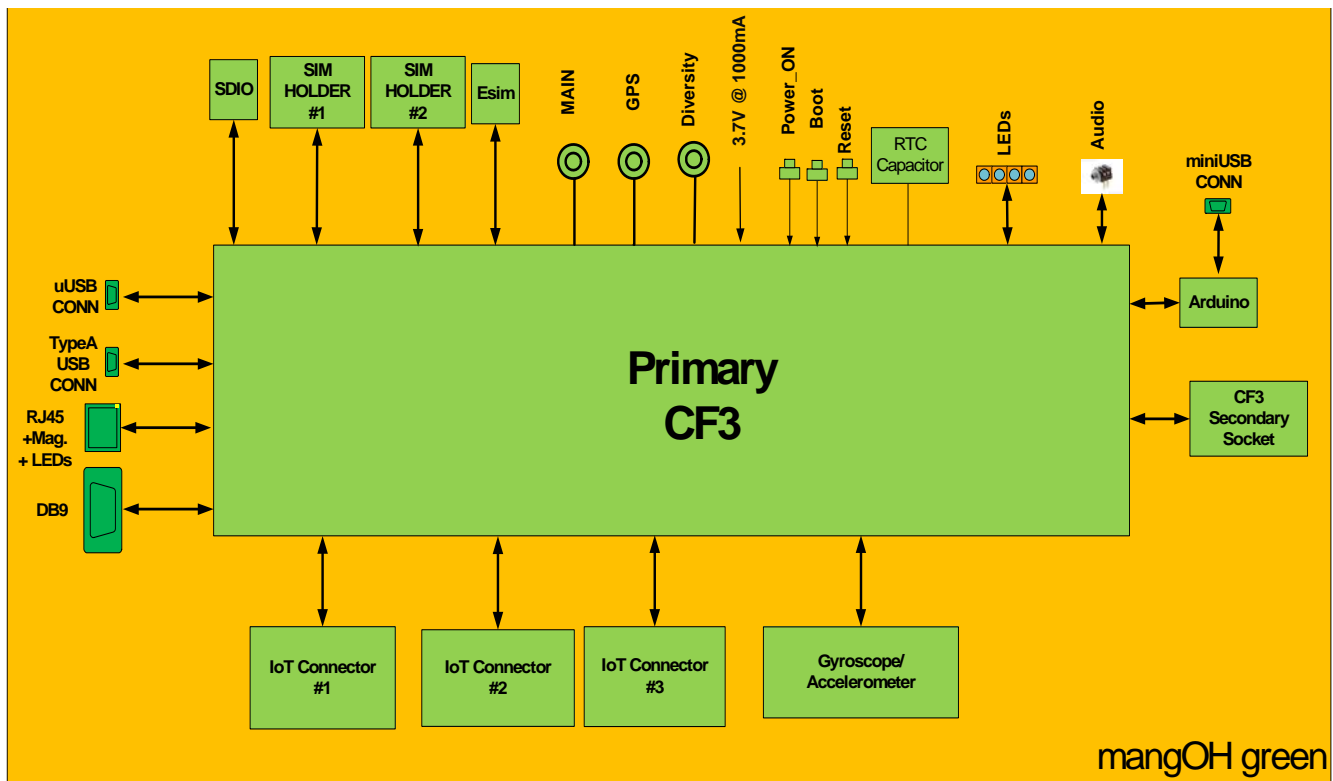
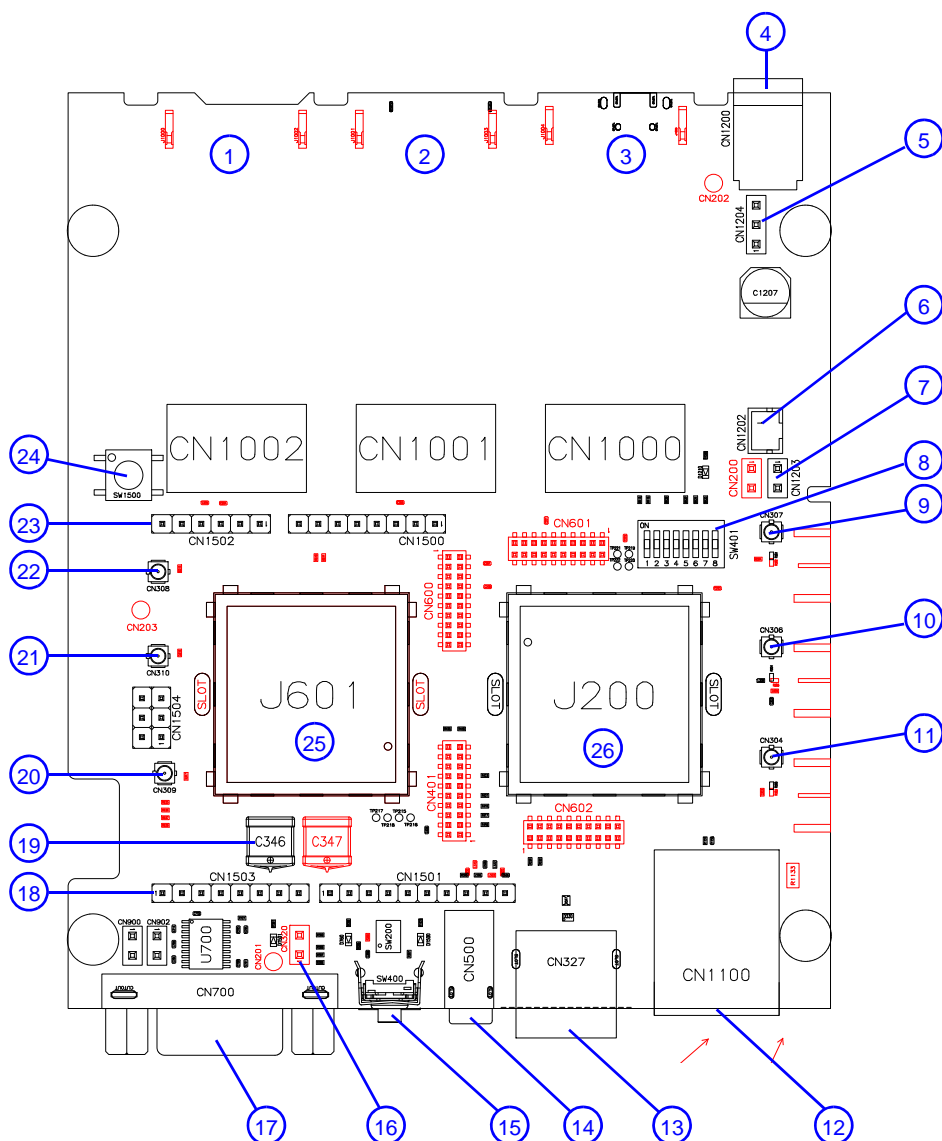
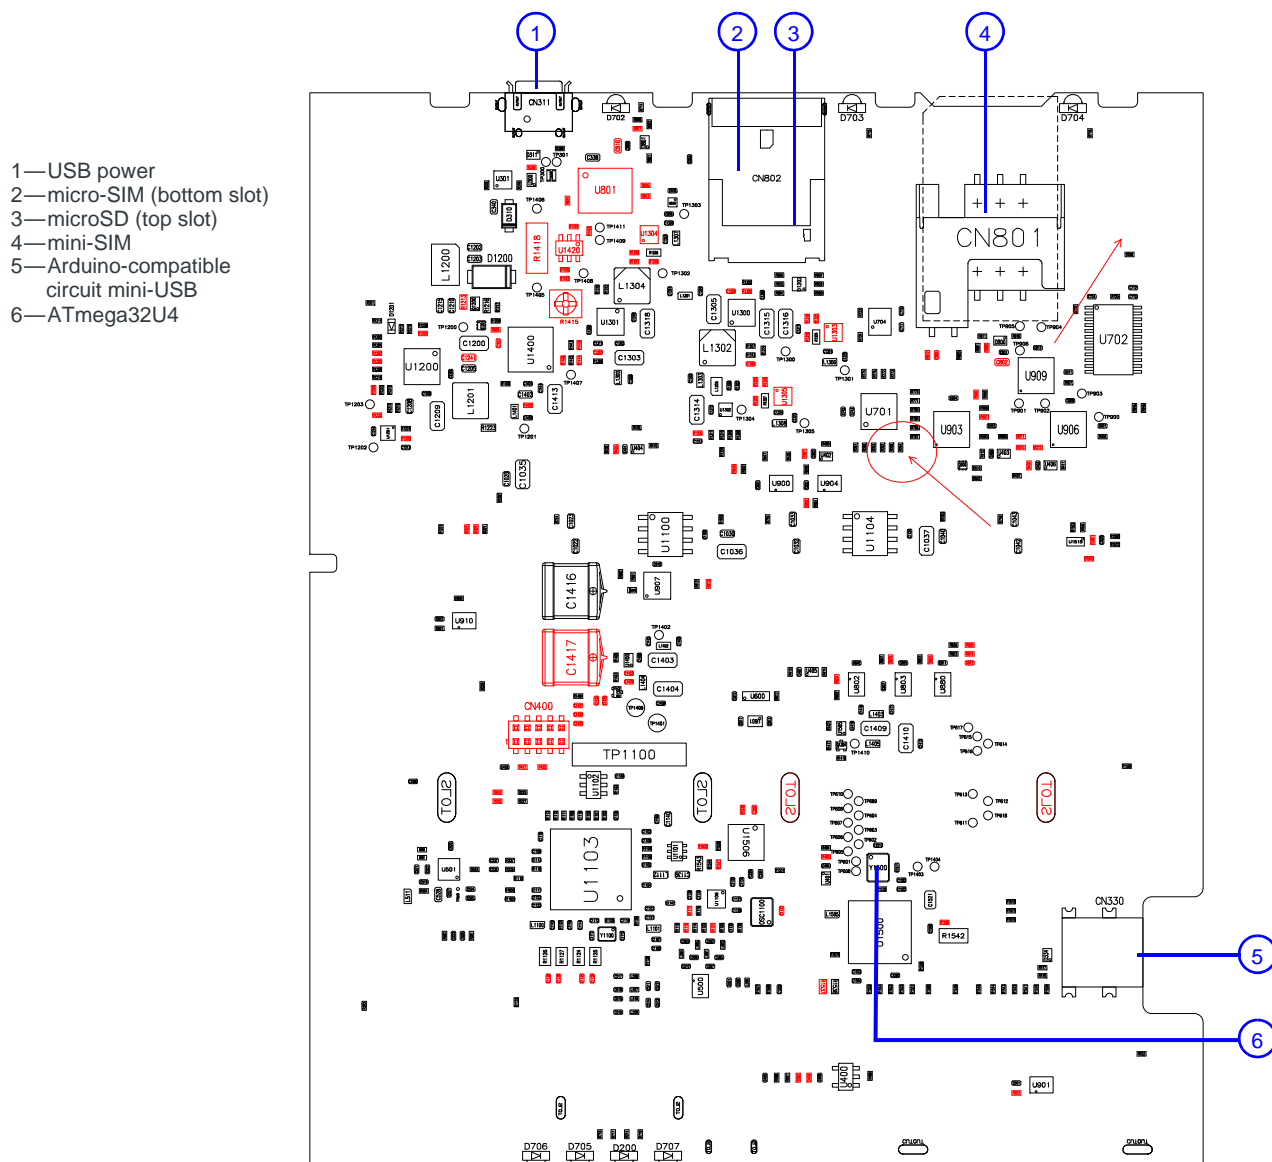

Figure 2-1: mangOH Green Hardware Components Overview
Figure 2-2: mangOH Green—Top Side Switches/Connectors
Figure 2-3: mangOH Green—Bottom Side Switches/Connectors
Figure 2-1 provides an overview of the mangOH Green's hardware components relative to the primary CF3 module, and Figure 2-2 on page 7 and Figure 2-3 on page 8 show their locations.
- a. Board designators (e.g. CN311, SW401, etc.) are for reference against the published mangOH Green schematic. For component locations on the board, see Figure 2-2 on page 7 and Figure 2-3 on page 8.